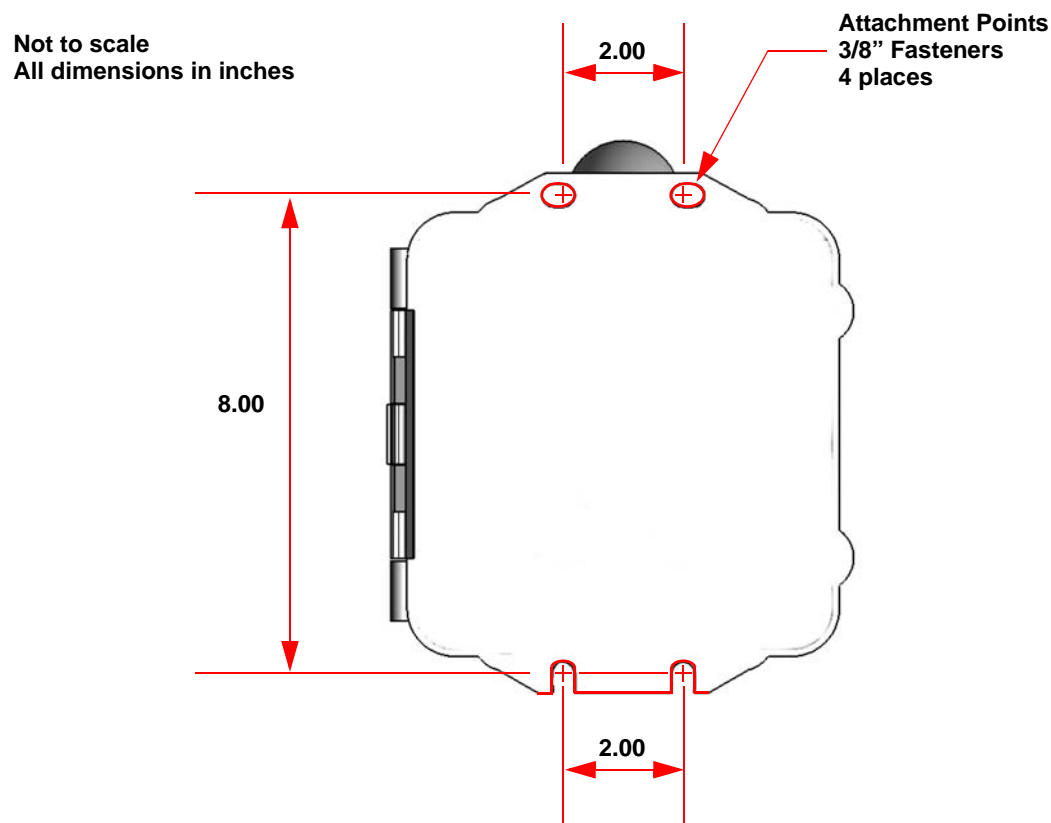

Figure 1-3: D-Series Camera Mount Enclosure
Once the holes are drilled in the mounting surface, install four (4) 3/8 or M8 bolts through the attachment points of the Camera Mount Enclosure as shown in Figure 1-3.